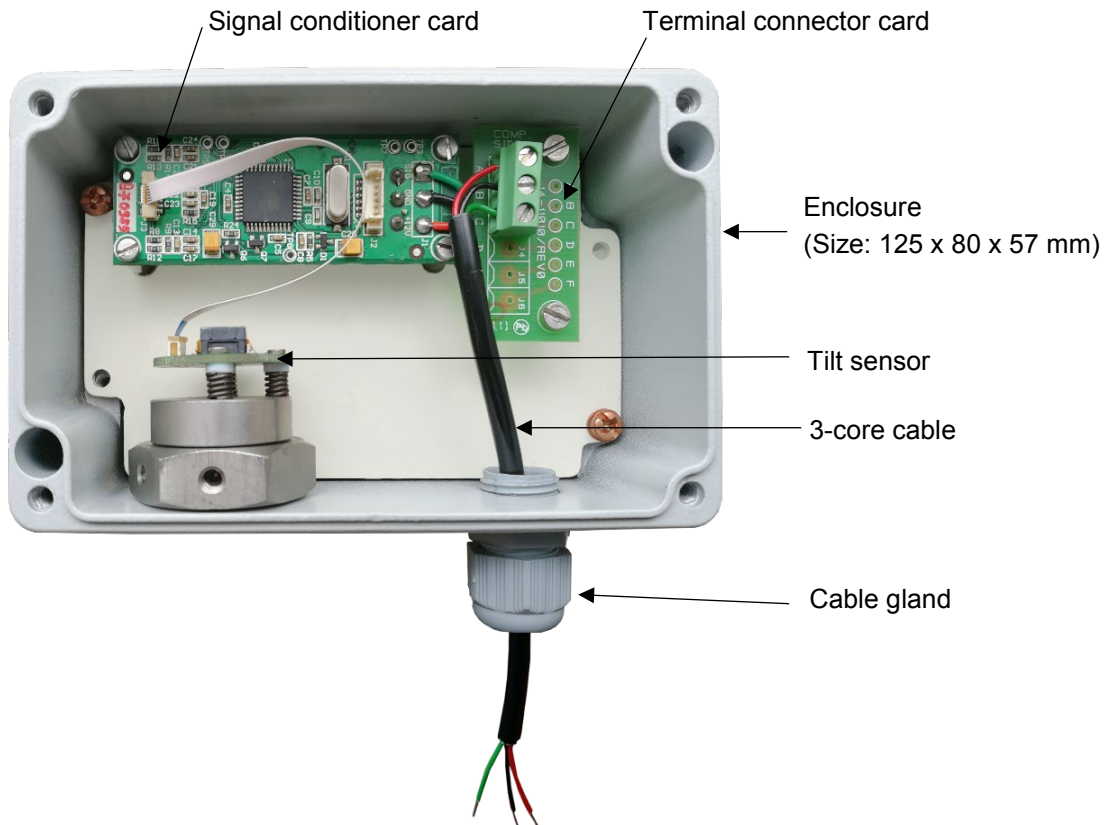

Figure 1 EAN-93M tilt meter
Model EAN-93M tilt meter (Figure 1) is built around a Micro-Electro Mechanical System (MEMS) technology tilt sensor having range of $\pm 15^\circ$, with high sensitivity and accuracy mounted inside a compact weatherproof enclosure. The tilt sensing module provides a bipolar DC voltage output proportional to the sine of tilt angle measured by the beam. It is then digitized through the in-built SDI-12 interface. The output is zero volts for a truly vertical or horizontal position.
- 3.1.1 Connect the 3-core cable to the tilt meter through screw terminal as per wiring details shown in Figure 1.